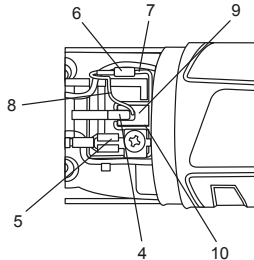

Figure 11
5. Use a small slot screwdriver to lift the end of the coil spring (4) upward and place it on top of the spade connector (5) (Fig. 11).
NOTE: Make sure the braided brush wire is routed EXACTLY the same as the original. Make sure the end of the coil spring is placed on top of the carbon brush. (Figure 11)